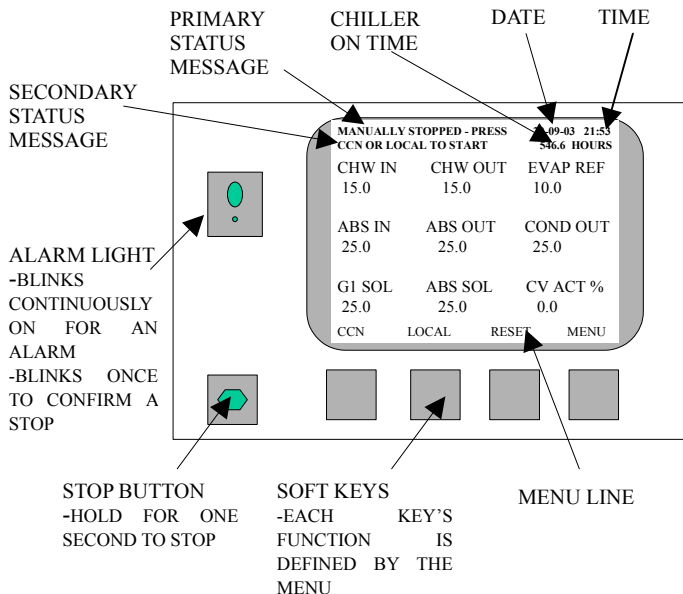

Fig. 3-3 ICVC Default Screen
- The ICVC display will automatically revert to the default screen after 15 minutes if no softkey activity takes place and if the chiller is not in the alarm shutdown. (Fig.3-3)